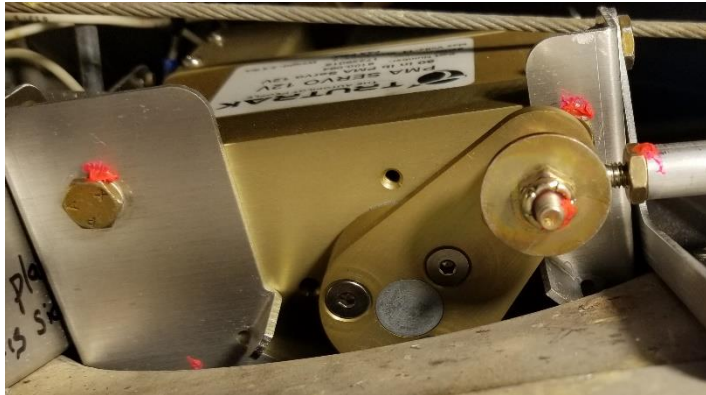

Figure 3-12
- 10.1. Hold the yoke in the full forward position and the servo arm 1/16 inch from the rear servo stop. See figure 3-12.